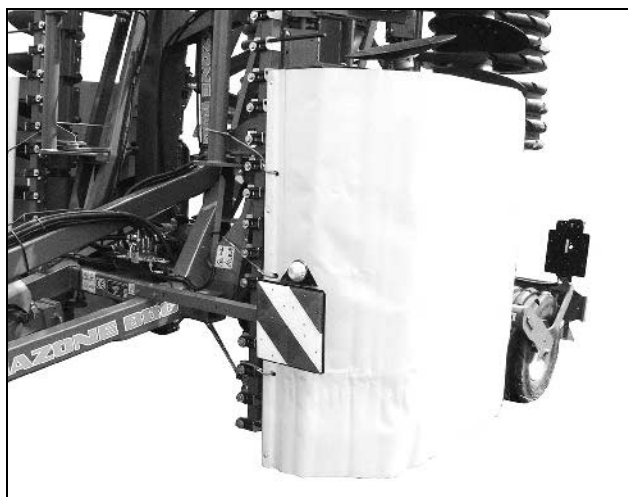
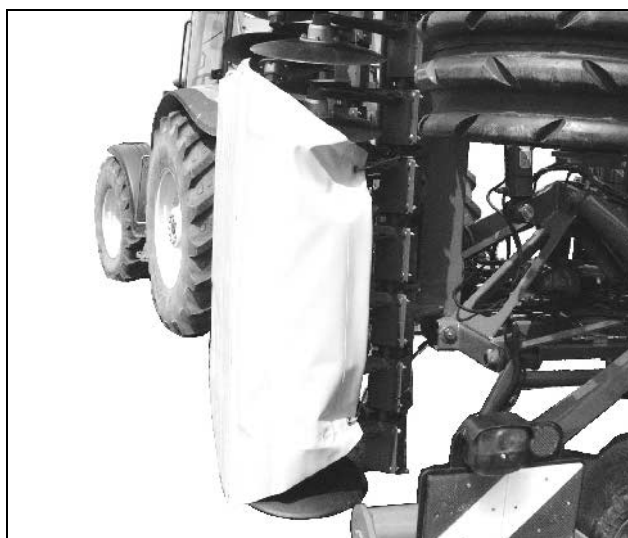

Fig. 24
Fig. 25
- Place the protective canvas round the disc rows and affix by using belts (3 belts in the front (Fig. 24) 2 belts in the rear (Fig. 25).